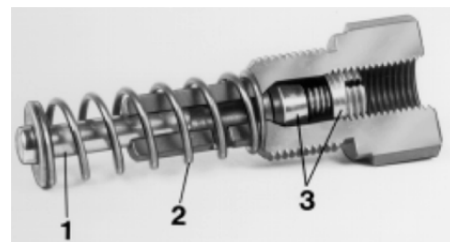

Fig. 6-11 Pump Element Assembly – Item 21
- Install new pump element as shown in Fig 6-11. The sealing ring (2) can be re-used if not damaged.
Exercise care while removing pump element assembly from housing. The pump element assembly (Fig. 6-11) should come out in one piece. If not, the reservoir must be disassembled and pieces removed. DO NOT leave behind in housing; they may block the motor from turning.